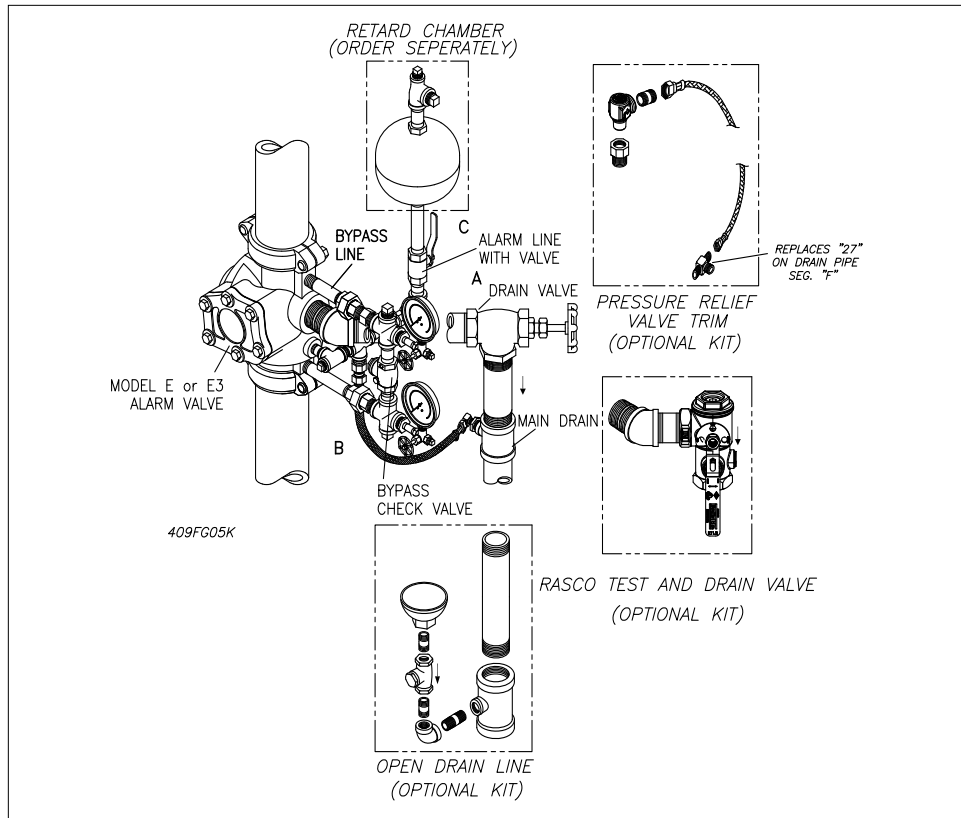

Fig. 3 - E3 Vertical Trim
Water now flows through the uncovered groove and alarm line into the retard chamber. Once the retard chamber is filled the water flow activates the mechanical and electrical alarms (Figs. 3 & 4).
- The by-pass connection with check valve (Figs. 3 & 4) allows pressure surges from the supply to by-pass the alarm valve clapper. An excess system pressure is thus created which steadies the clapper. Should a heavy surge unseat the clapper and permit water to flow into the alarm line, the retarding chamber then comes into action.
The basic trims for the Reliable Model E3 High Pressure Alarm Valve (Figs. 3 & 4), are arranged for rapid, easy and compact attachment, and serve as connection points to Reliable alarm and other devices. They also act as a means for testing the operation of the alarm devices without causing the system to operate. The Model E3 high pressure alarm valves are available in two trims and may be installed in the vertical or horizontal position in the main supply to the wet pipe system:
- A Reliable TD test and drain valve segment is optional, to be purchased separately, as a replacement to the valve (Figs. 3 & 4).